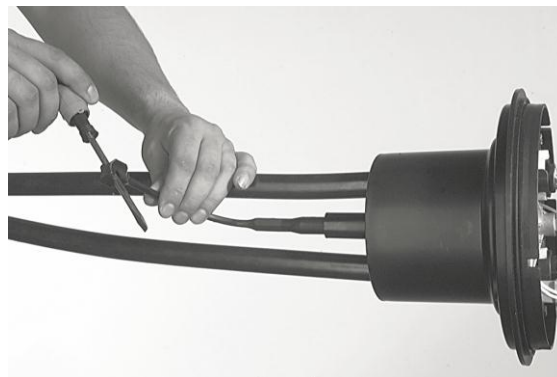

Figure 16 – Turn the “tail” to compress the gel seal around the cables
4.23 Turn the “tail” of the gel end-piece clockwise to seal the cables and plugs (Figure 16). Turn the tail until it stops at the physical dead-end or becomes tight. **Note:** Do not use a drill to turn the tail as this will damage the gel end-piece.